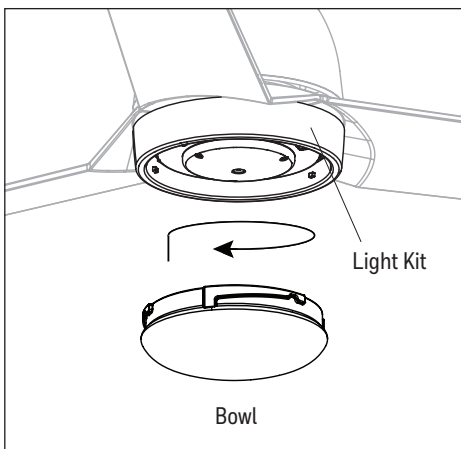

Figure 5.7
7. Attach the bowl to the light kit by twisting the bowl firmly in a clockwise direction until it is secure. **CAUTION:** Avoid cross-threading the bowl during installation. Improper installation could cause the bowl to be difficult to remove or fall, which could cause serious injury (Figure 5.7).